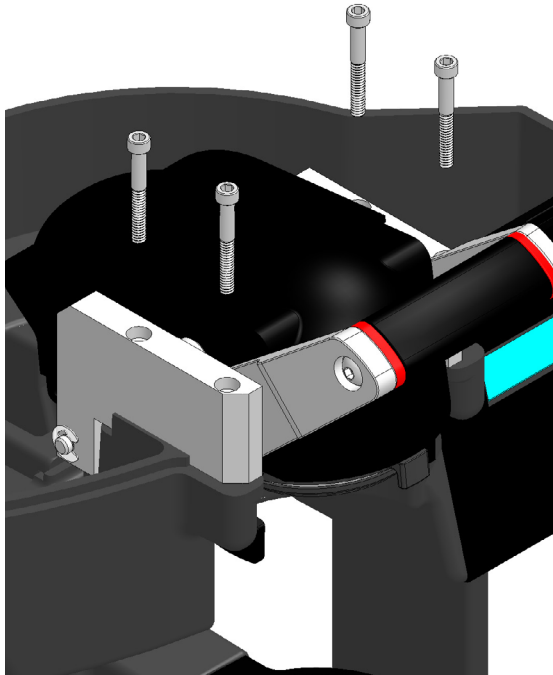

FIG. 5-1
2. Using 5/32" Allen wrench, remove 4 socket head screws. FIG 5-1